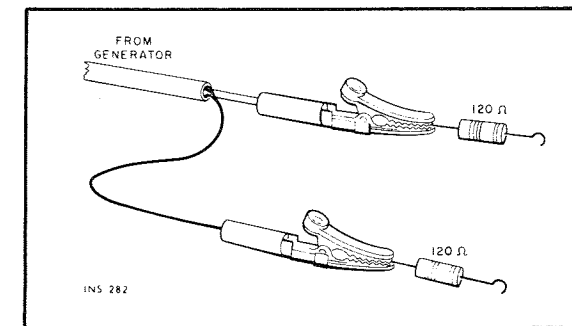
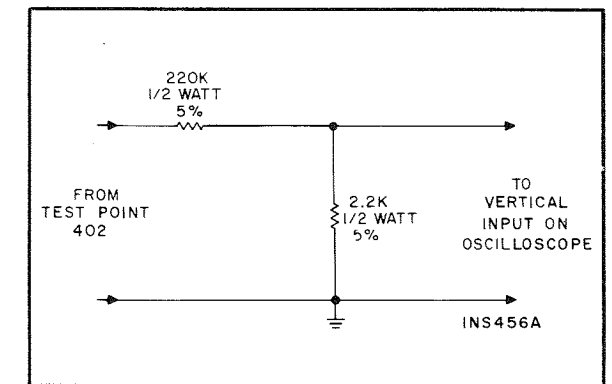

Figure 5. Connections To Provide 300-Ohm Generator Output Impedance. Matching Resistors Reduce Generator Voltage By Half At Antenna Terminals.
Figure 6. Voltage Divider Probe.
- Set TUNING dial pointer to zero (0) calibration mark on the logging scale. If the dial pointer is not centered on the 0 at the extreme end of knob rotation, reposition the pointer assembly on the dial cord and cement the pointer in place to prevent slippage. Allow cement to thoroughly dry.
- Connect an FM generator to the FM ANTenna terminals. Use a 120-ohm composition resistor in series with each lead from the generator (see Figure 5).
- (1) Connect RF output of multiplex generator to the FM ANTenna terminals. Use a 120-ohm composition resistor in series with each lead from RF output (see Figure 5). Set MPX generator for external modulation with 19 kHz pilot carrier,  $\pm 7.5$  kHz deviation (10% pilot, no audio). Tune receiver to RF frequency of MPX generator.
- (2) Connect DC VTVM to Test Point 403 (pin 4G on FM IF, MPX, METER board).
- (3) Adjust cores of Z401 and Z402 (on FM IF, MPX, METER board) for maximum reading on DC VTVM (2.5 to 4 VDC).
- (4) Connect output of audio generator, set for 1 kHz, to the external modulation input of MPX generator and to external sync input of an oscilloscope. Adjust audio generator level for composite signal  $\pm 75$  kHz deviation (10% pilot, 90% audio). Modulate right channel only.
- (5) Connect AC VTVM to Left OUT TO EXT RCDR jack. Connect scope through voltage divider probe (see Figure 6) to Test Point 402 (pin 4K on FM IF, MPX, METER board).